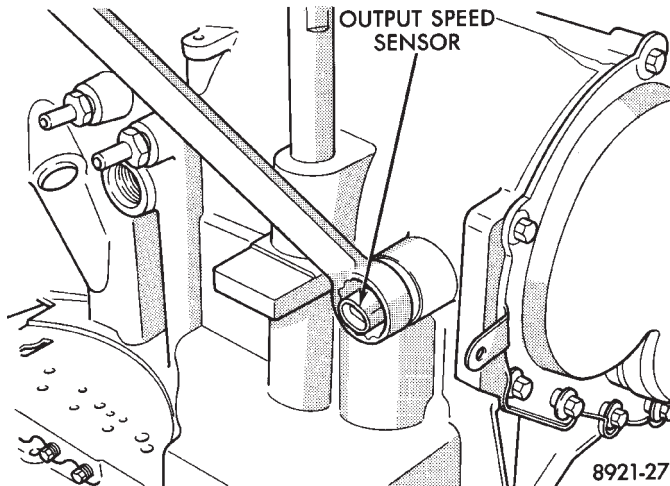

Fig. 21 Vehicle Speed Sensor Removal
- (1) Raise and support vehicle on safety stands.
- (2) Remove vehicle speed sensor (Fig. 21).